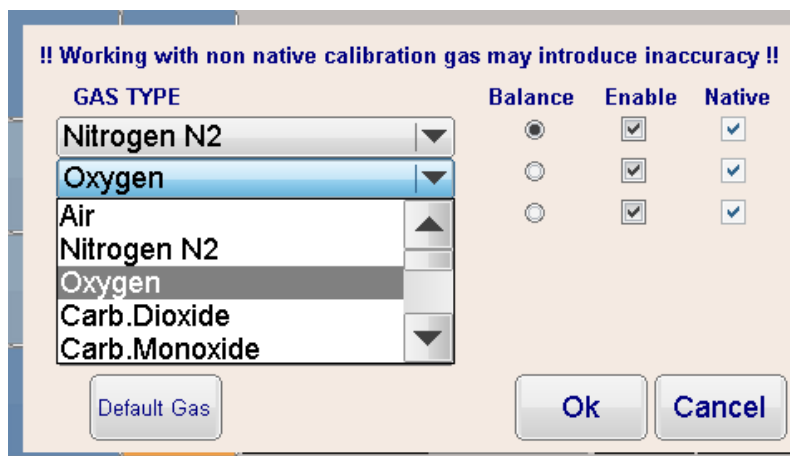

Figure 4-12
**NOTE: A channel calibrated for a specific gas can still be used to work with another gas type. In case, for example, you need to work with Air in a channel calibrated for Oxygen, just select “Air” in the channel pull-down menu list (Figure 4-12). The channel calibration curve will be automatically adjusted to work with the new selected gas type. Nevertheless, the adjustment process is just a mathematical calculation that can determine a small measure accuracy loss.**